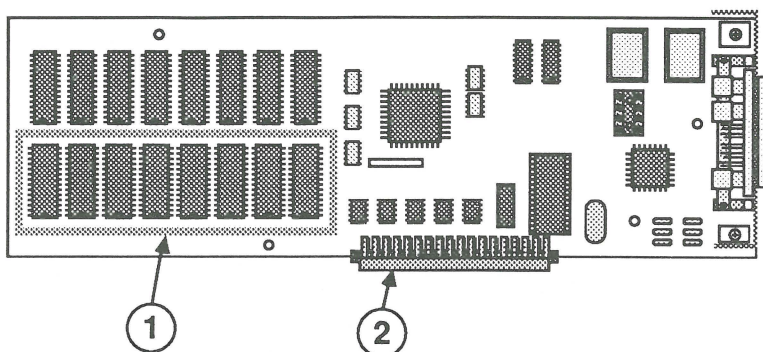

FIGURE 3
1. Install the eight video RAM chips in the appropriate locations on the video card: D1 through D8 (Figure 3, #1).
Note: The notch at the end of each RAM chip should face the expansion slot connector (Figure 3, #2) on the bottom of the card.